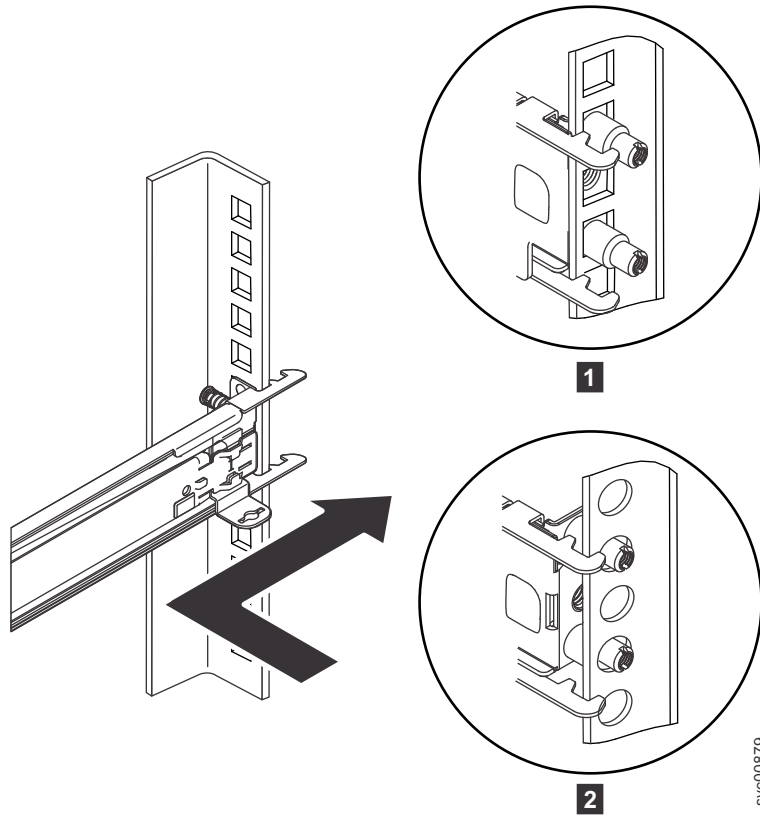

Figure 46. Installing rear end of slide rail
3. Install the rear end of the slide rails, as shown in Figure 46 on page 63.